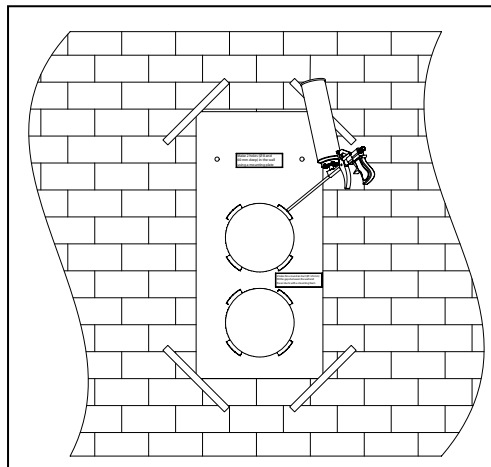

Fig. 7.
5. Inset the air ducts into the master plate holes and seal those with a mounting foam through the provided openings in the master plate, fig. 7. Install the air ducts sloped down by 2-3° outside to ensure the condensate drainage.
5. Insert the air ducts into the master plate holes and seal those with a mounting foam through the provided openings in the master plate, fig. 7. Install the air ducts sloped down by 3° outside to ensure the condensate drainage.
5. Insert the air ducts into the master plate holes and seal those with a mounting foam through the provided openings in the master plate, fig. 7. Install the air ducts sloped down by 3° to ensure the condensate drainage.